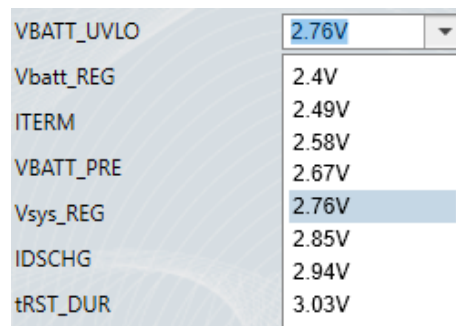

Figure 9: BATT_UVLO Threshold Setting
- Figure 9 shows the BATT_UVLO threshold setting. Set the BATT_UVLO threshold to 2.76V (the range is 2.4V to 3.03V).